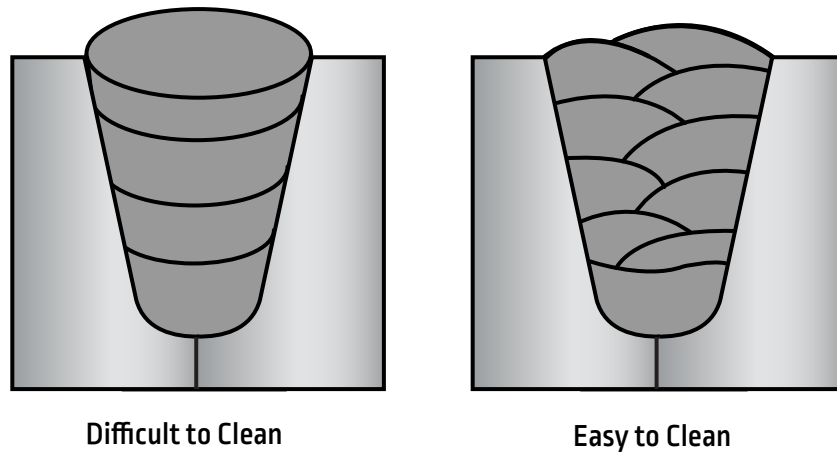

Figure 5-6: Influence of Bead Shape on Slag Removal
- **NOTE:** Split pass layers typically give better slag removal than single pass layers (see Figure 5-6).